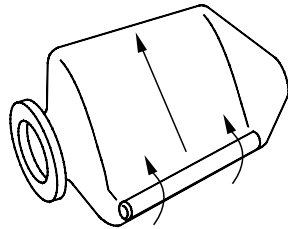

Figure 4 – Roll diagonally toward neck
- To get tightest possible wrap, start on one side at top and TIGHTLY roll water cell diagonally to other side (see Figure 4). To force out as much air as possible, be sure to roll toward water cell neck opening.